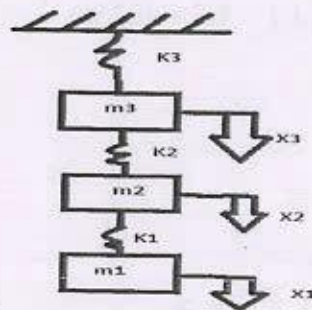

Fig.4b
- b) Using Holzer's method, find the natural frequencies of the system shown in fig. 4b. Assume $m_1 = m_2 = m_3 = 1 \text{ kg}$ and $k_1 = k_2 = k_3 = 1 \text{ N/m}$. Solve up to four iterations. [10]